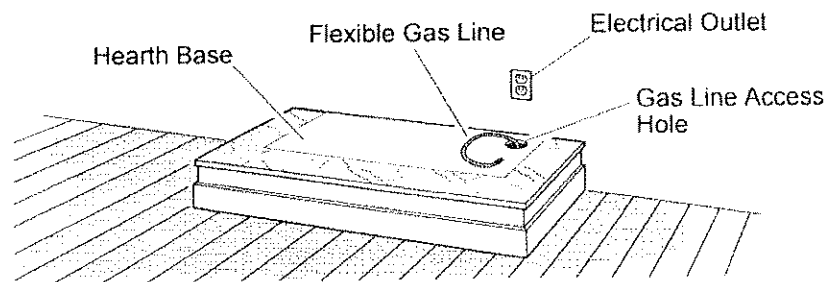

Figure 8 - Placing Hearth Base Accessory Against Wall
2. Install a properly grounded, 120 volt three-prong electrical outlet at fireplace location if an outlet is not there. If possible, locate outlet so cabinet mantel will cover it when installed (see Figure 8, page 12).
4. Place hearth base accessory against wall at installation location. Cut an access hole in hearth top to run flexible gas line to fireplace (see Figure 8). Make sure to locate access hole so cabinet mantel will cover it when installed. *Note:* You can secure base to floor using wood screws. Countersink screw heads and putty over.